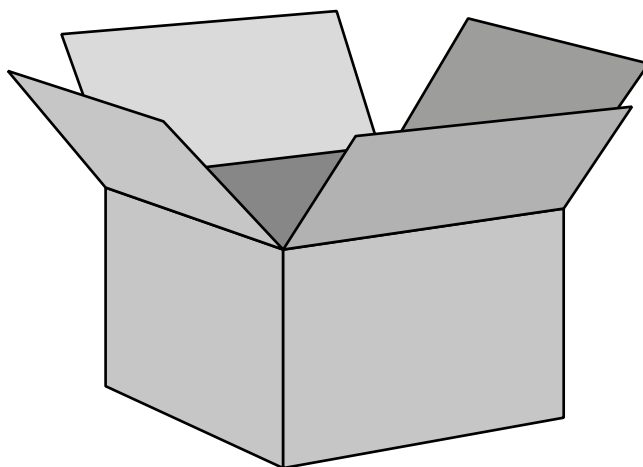

Figure 2
- 2 Figure 2 shows a packing case used in the transportation and delivery of consumer products.